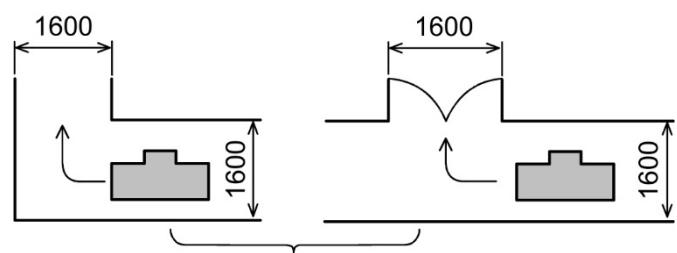

Figure 7-3
- (c) If turning the unit with the gantry facing the inside, the corridor width should be 1600 mm or more and the entrance width should be 1600 mm. (Figure 7-3)